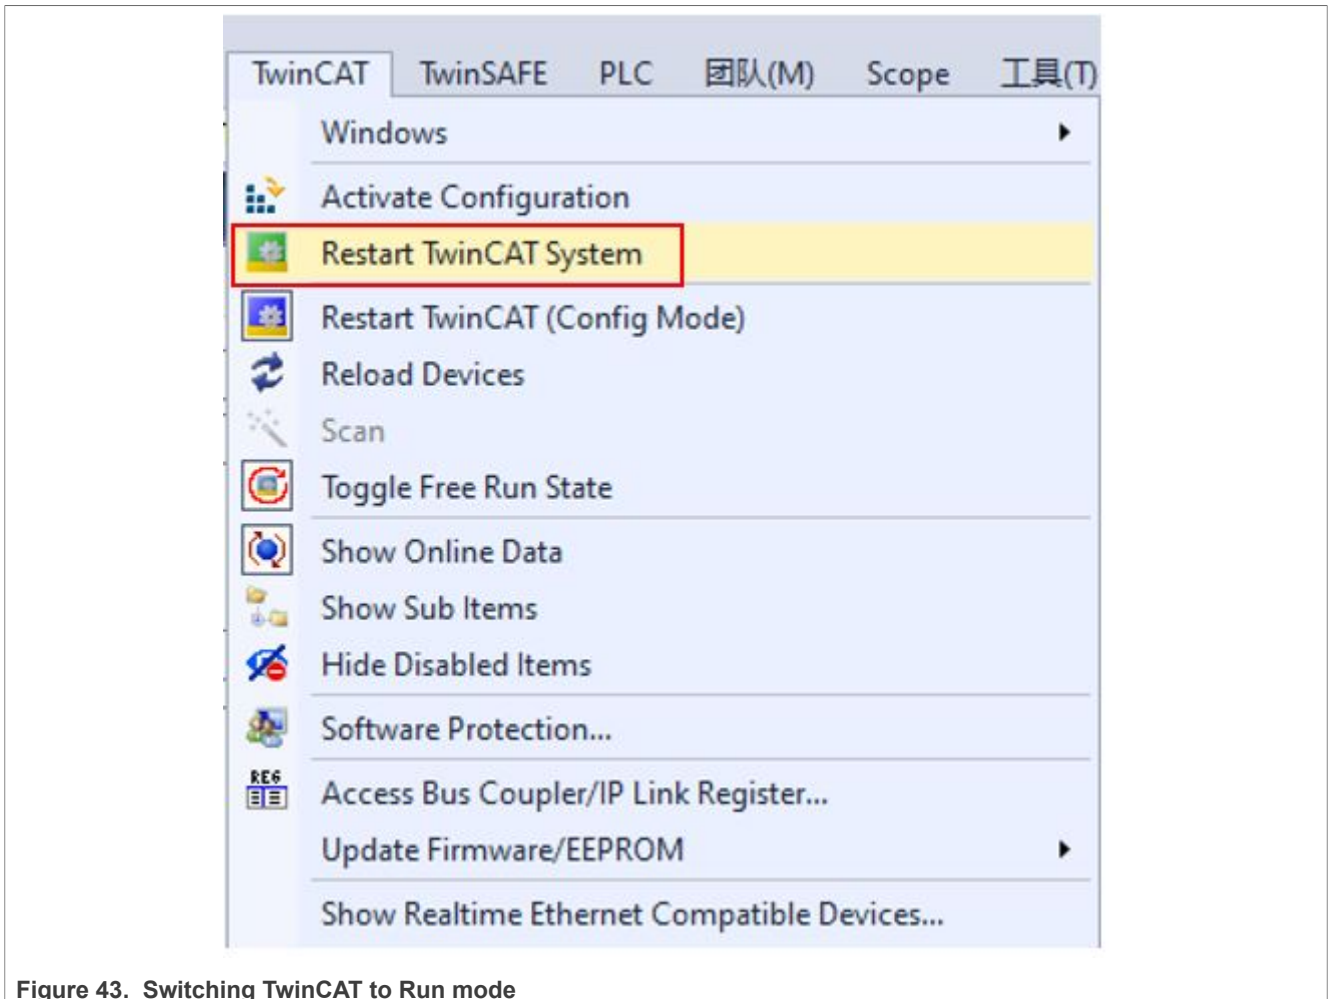

Figure 43. Switching TwinCAT to Run mode
5. Switch to Run mode as shown in Figure 43 and ensure that the EtherCAT slave runs in OP mode.